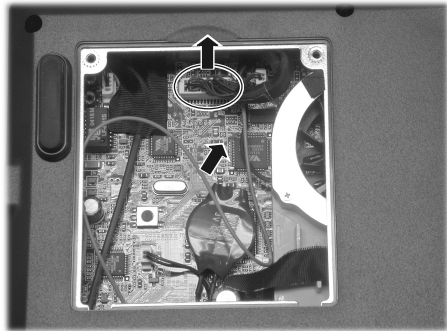

Figure 2-15 Disconnect the LCD cable
4. Disconnect the LCD cable from the system board and detach the antenna. (Figure 2-15)